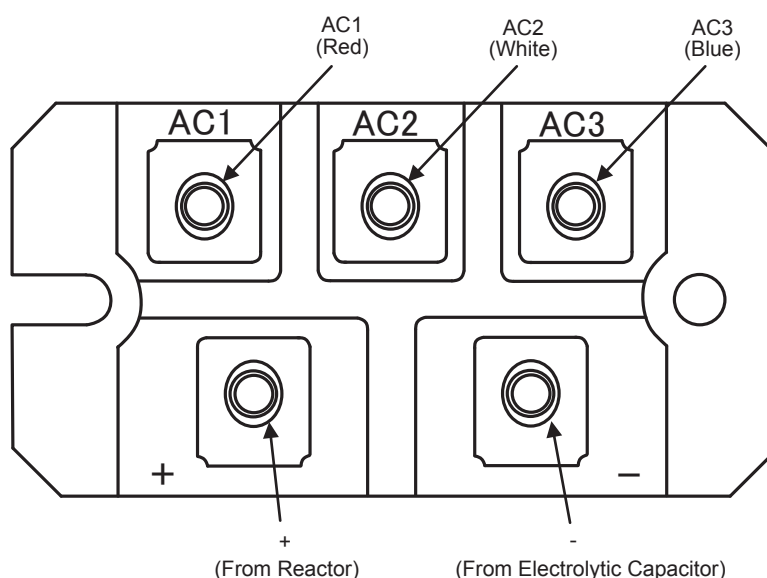

Fig.1 Parts arrangement view
- Connect the wire to the diode module (AC1, AC2, AC3, +, -). (See Fig.1.)